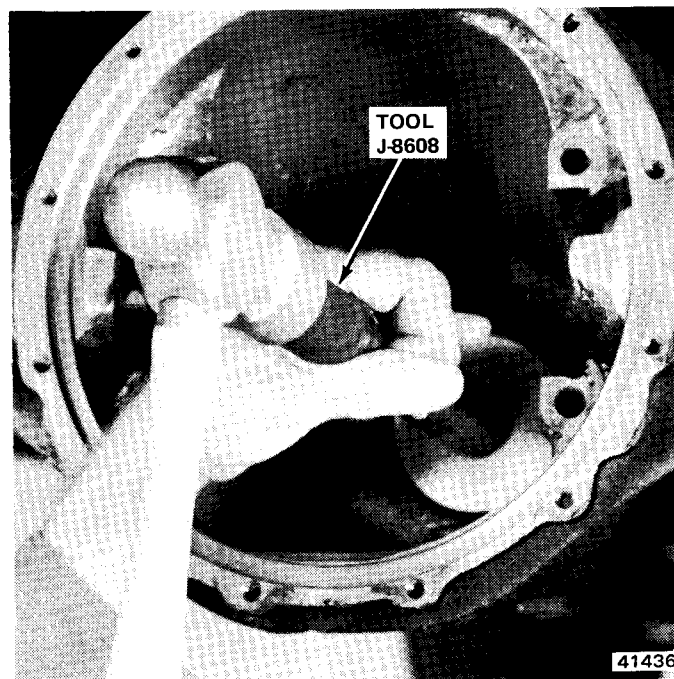

Fig. 10-39 Installing Pinion Rear Bearing Cup
(1) Install rear bearing on pinion gear with large diameter of roller case toward gear. Press bearing against rear face of gear using Bearing Installer J-22697.
(2) Clean axle housing bearing bores to correctly check pinion gear depth.
(3) Install shim in rear bearing bore of housing and install rear bearing cup with Driver Handle J-8592 and Bearing Cup Installer J-8608 (fig. 10-39).
(4) Install front bearing cup using Driver Handle J-8592 and Bearing Cup Installer J-8611-01.
(5) Install pinion gear, front bearing, rear yoke, and original pinion nut. Tighten nut only enough to remove bearing end play. Do not install new nut and collapsible spacer at this time.
(6) Measure pinion gear depth to determine correct shim thickness.